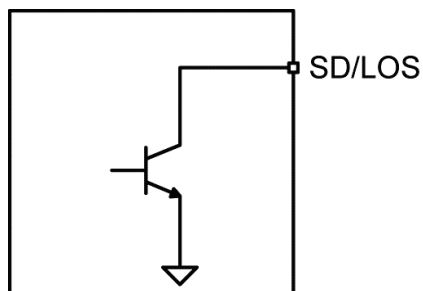

Figure 4. SD/LOS Output Structure
The SY88063CL generates a user-selectable (SD/LOS\_SEL pin) signal detect (SD) or loss-of-signal (LOS) open-collector TTL output, as shown in Figure 4. LOS is used to determine whether the input amplitude is too small to be considered as a valid input. LOS asserts high if the input amplitude falls below the threshold set by